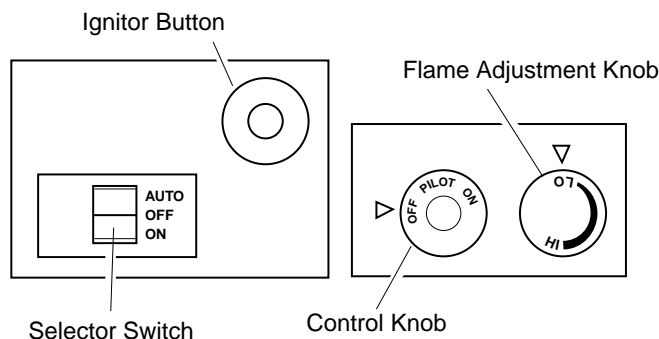

Figure 27 - Control Knob and Ignitor Button Location (Shown as Supplied, No Control Options)
5. Wait five (5) minutes to clear out any gas. Then smell for gas, including near the floor. If you smell gas, **STOP!** Follow "B" in the safety information. If you don't smell gas, go to the next step.
6. Press in and turn control knob counterclockwise to the PILOT position. Press in control knob for five (5) seconds (see Figure 27).